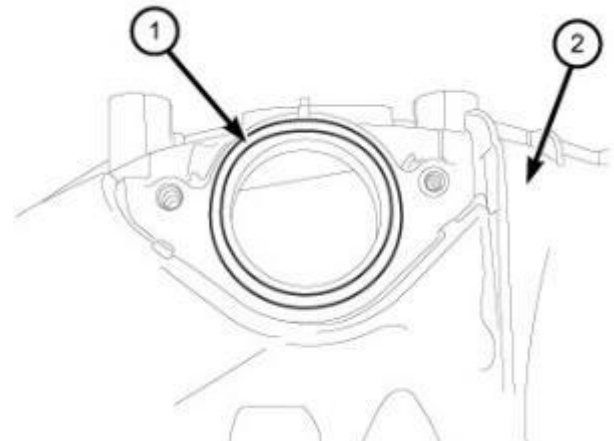

Figure 19 – Upper EGR Tube O-ring at Intake Manifold
45. Install a **NEW** O-ring gasket (1) onto the intake manifold (2) (Figure 19).